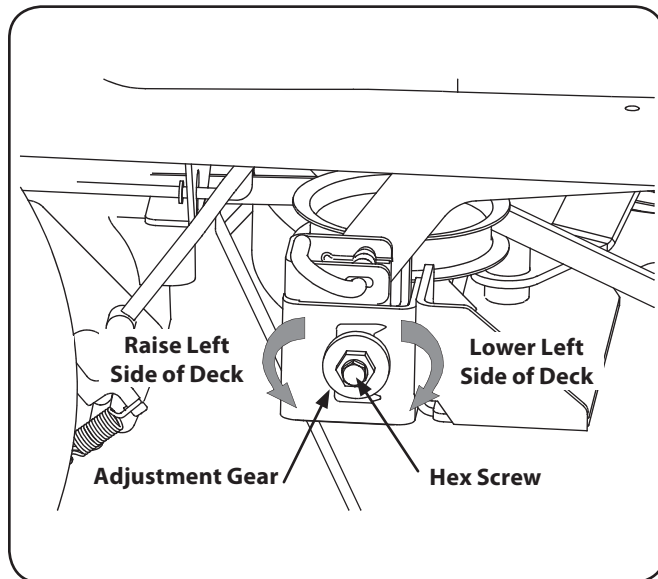

Figure 6-5
5. Loosen, but do not remove, the hex screw on the left deck hanger bracket. Refer to Fig. 6-5.
6. Level the deck by using a wrench to turn the adjustment gear (found immediately behind the hex screw just loosened) clockwise to lower the left side of the deck, or counterclockwise to raise the left side of the deck. See Fig. 6-5.